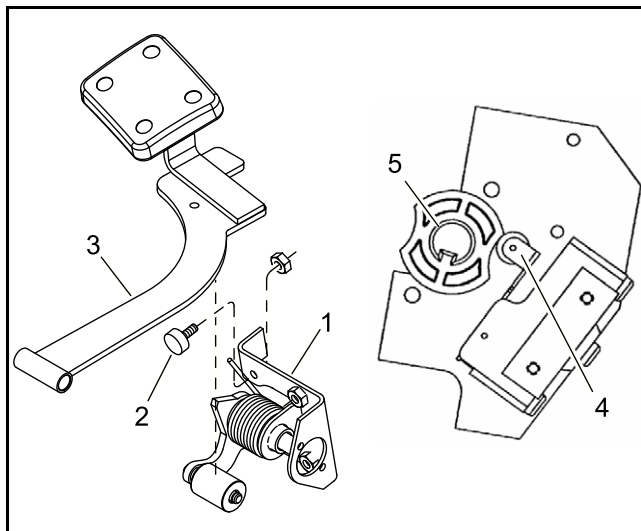

Fig. 12 (25334)
2. Loosen the two #6 screws. Slide switch roller against cam. Refer to Figure 12. The switch should actuate.